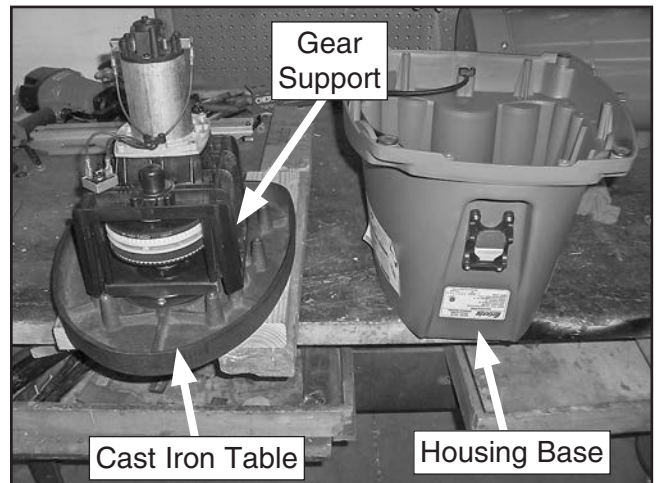

Figure 23. Housing base removed from cast iron table.
6. Remove housing base (#76) from cast iron table (#7), as shown in **Figure 23**.